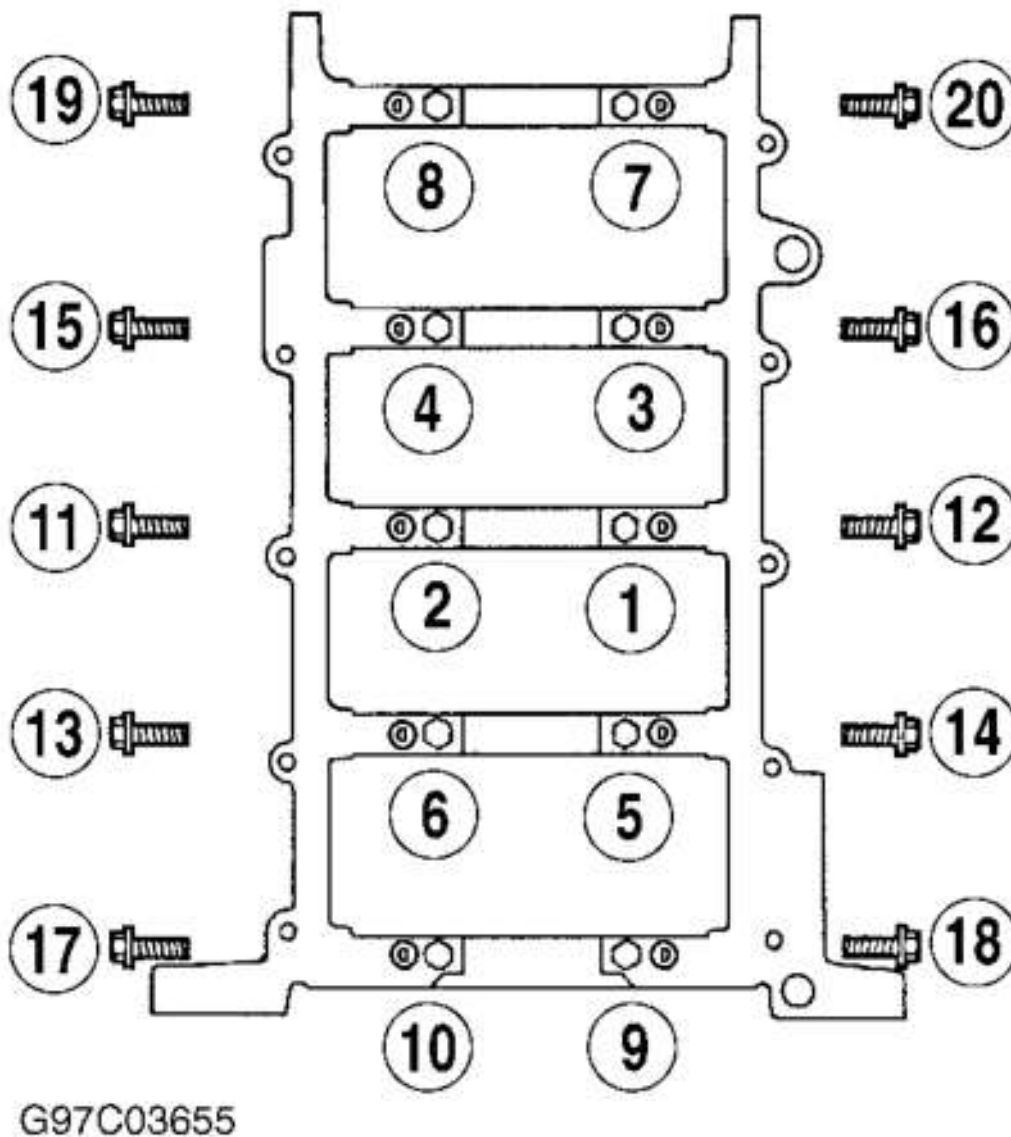

Fig. 94: Main Bearing Cap Bolt Tightening Sequence (Windsor Engine)
3. Install main bearing caps using NEW bolts, do not fully tighten. Using a pry bar push crankshaft forward to seat thrust washer. While holding crankshaft forward, evenly pry No. 5 main cap rearward (DO NOT COCK). Tighten main bearing cap bolts to specification in 2 steps using proper sequence. See Fig. Fig. 93 or Fig. 94 . See TORQUE SPECIFICATIONS.
4. Tighten side adjusting screws against cylinder block to specification in 2 steps using proper sequence. See Fig. 93 or Fig. 94 . Side adjusting screws have left-hand threads. Tighten side bolts.